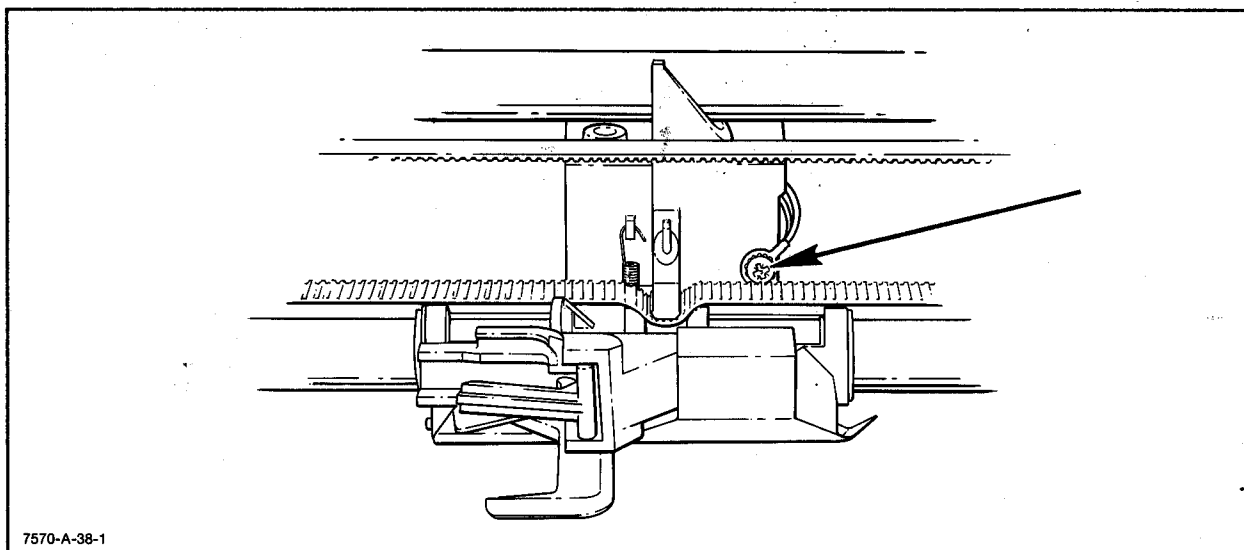

Figure 6-37. Solenoid Removal
- c. Loosen the machine screw in the solenoid. See Figure 6-37.